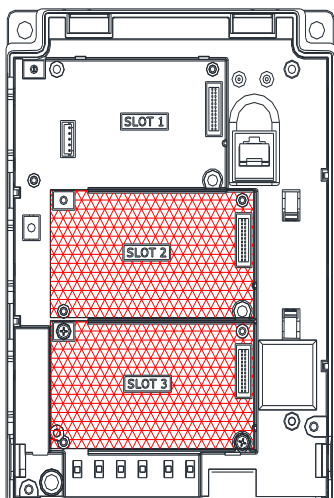

Figure 1
Step1: As the Figure 1 shows, please insert EB362R into the control board SLOT 2 or SLOT 3, not SLOT 1.